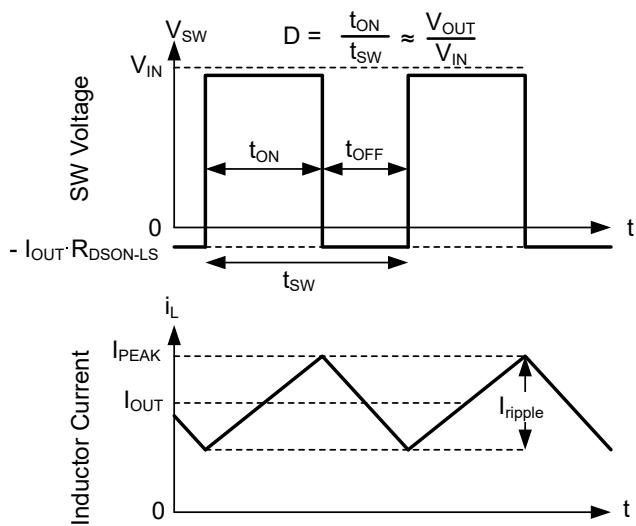

Figure 8-15. SW Voltage and Inductor Current Waveforms in Continuous Conduction Mode (CCM)
The following operating description of the device refers to Section 8.2 and to the waveforms in Figure 8-15. In CCM, the device supplies a regulated output voltage by turning on the internal high-side (HS) and low-side (LS) switches with varying duty cycle (D). During the HS switch on time, the SW pin voltage, V_{SW} , swings up to approximately V_{IN} , and the inductor current, i_L , increases with a linear slope. The HS switch is turned off by the control logic. During the HS switch off time, t_{OFF} , the LS switch is turned on. Inductor current discharges through the LS switch, which forces the V_{SW} to swing below ground by the voltage drop across the LS switch. The converter loop adjusts the duty cycle to maintain a constant output voltage. D is defined by the on time of the HS switch over the switching period: